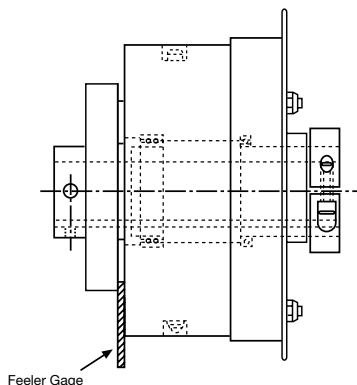

Figure 12
- a. Measure the gap around the periphery between the coupling flange and the clutch housing without rotating the shafts. (See Figure 12)
- a. Measure the gap around the periphery between the coupling flange and clutch housing without rotating the shafts. (See Figure 12)